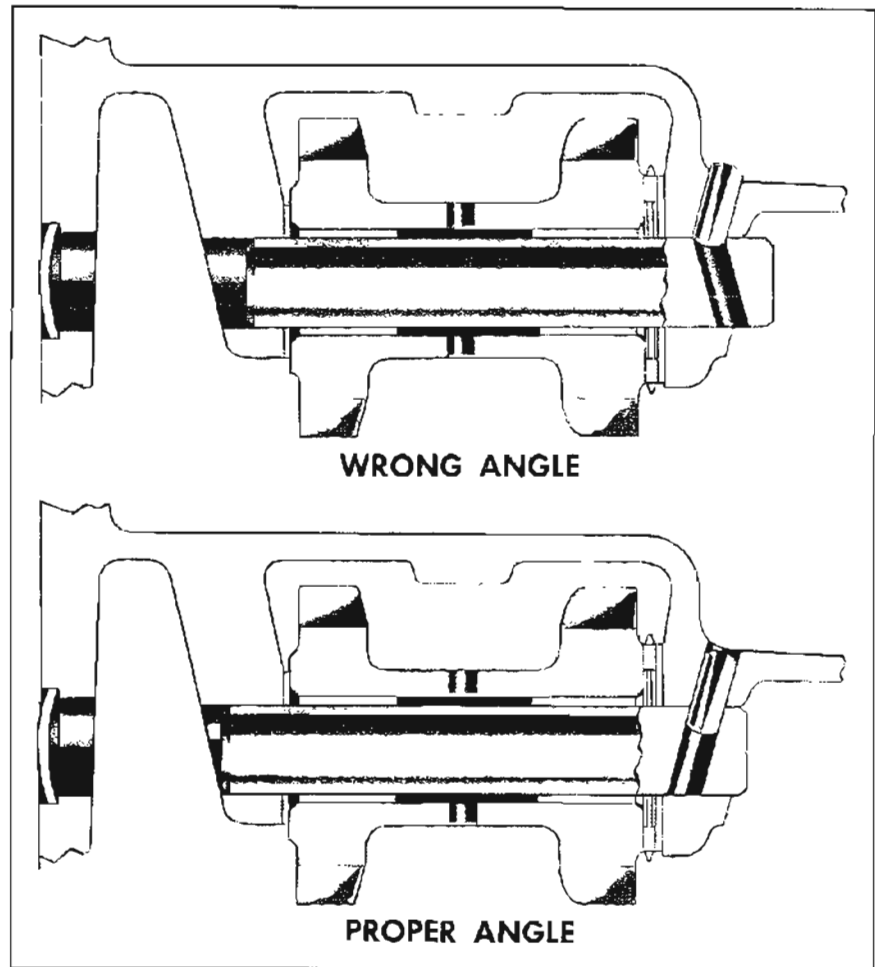

Figure 4-26—Reverse Idler Gear
1. Coat reverse idler thrust-washers and the thrust bearing with grease and install as shown in Figure 4-26. Coat bushings with transmission lubricant.
3. Install the idler shaft, making sure the lock pin hole in the shaft lines up with the hole in the case at the same angle. See Figure 4-26.